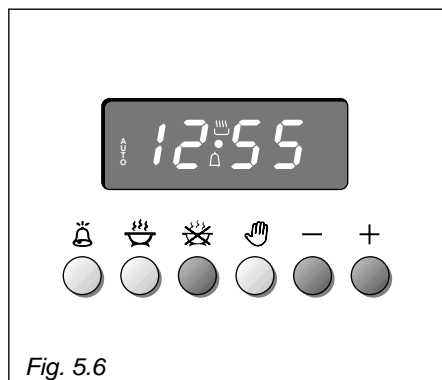

Fig. 5.6
2. Set the time you need the food to stop cooking by pushing the  button (the cooking time already added to the clock time will appear), and the  button (fig. 5.6); if you pass the desired time you can go back by pushing the  button.